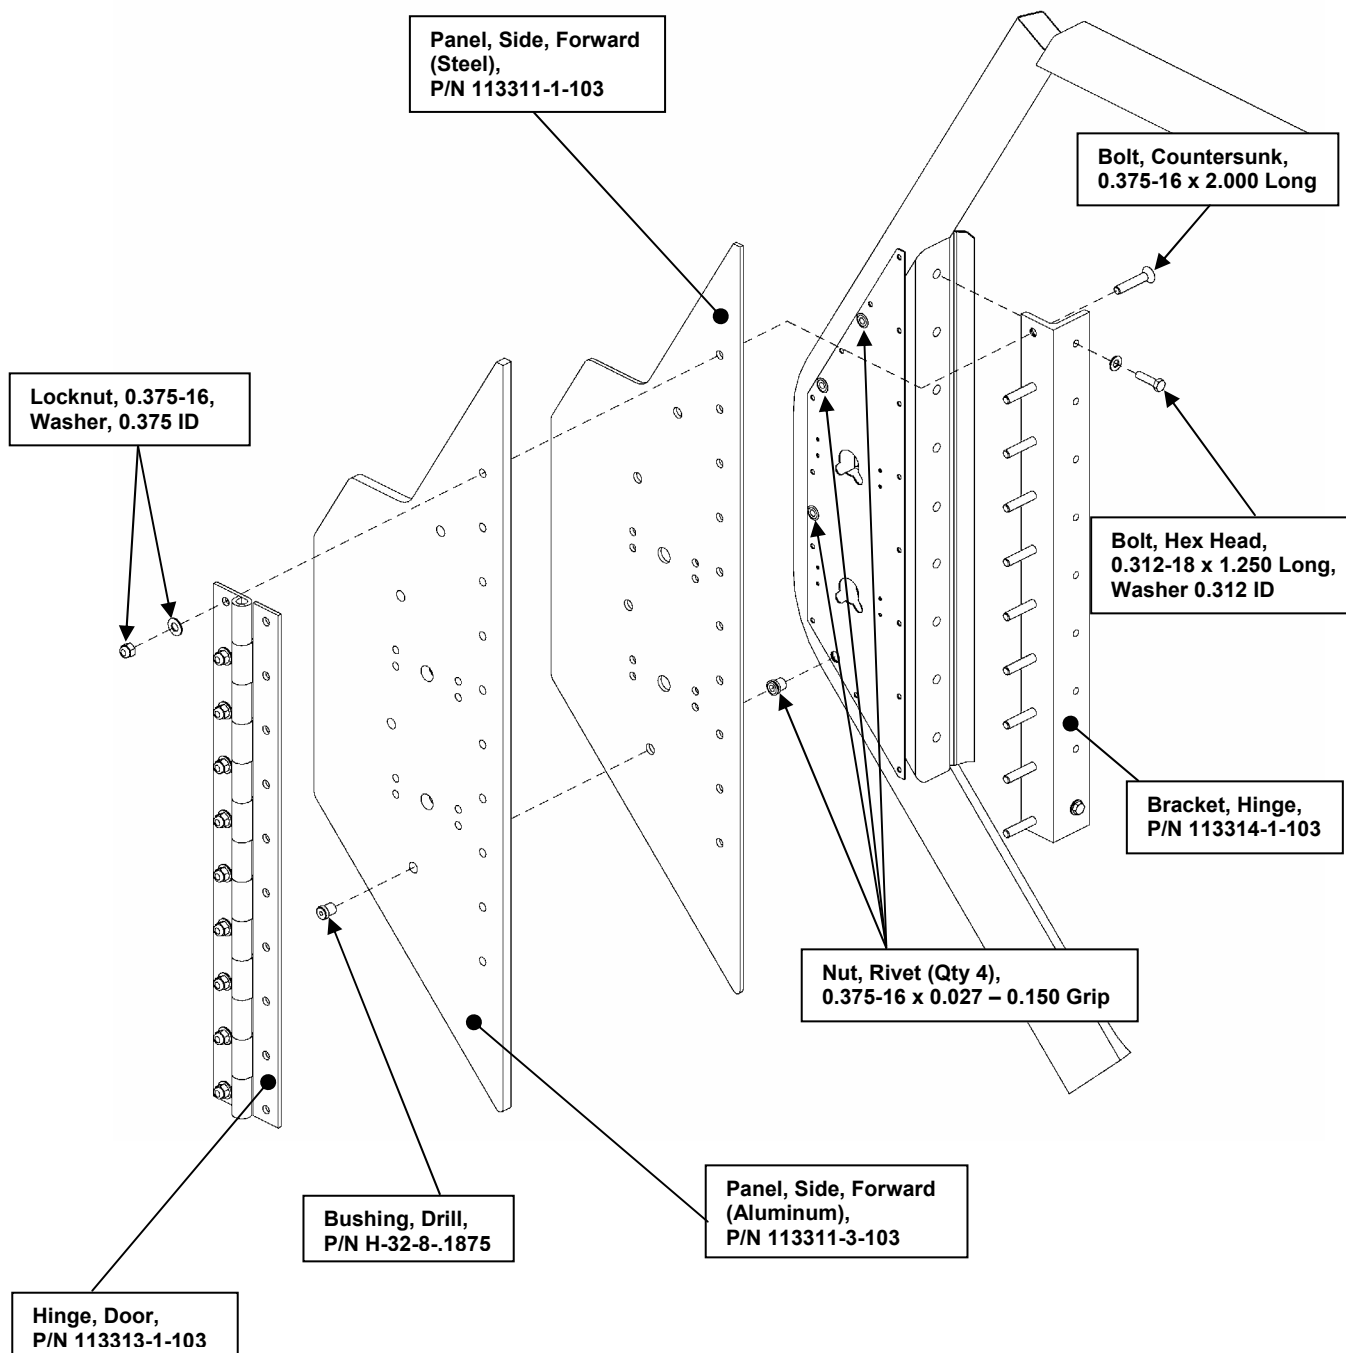

Figure 23. Left Front Side Armor Assembly.
3.5.2 Install Armor Kit, Side, PLS (LH), P/N 113310-1-103
- a) Attach the Door Hinge (P/N 113313-1-103), Forward Side Panels (P/N's 113311-1-103 and 113311-3-103), and Hinge Bracket (P/N 113314-1-103) using the 0.375-in. counter-sunk bolts and locknuts, as shown in Figure 23.
- b) Position the Front Side Armor Assembly onto the side of the cab and secure the Hinge Bracket (P/N 113314-1-103) to the door pillar using the hardware shown in Figure 23.
- c) Insert the Drill Bushing (P/N H-32-8-0.1875) into each the four holes on the Armor Assembly that will receive rivet nuts (see Figure 23) and match drill four 3/16-in. pilot holes.